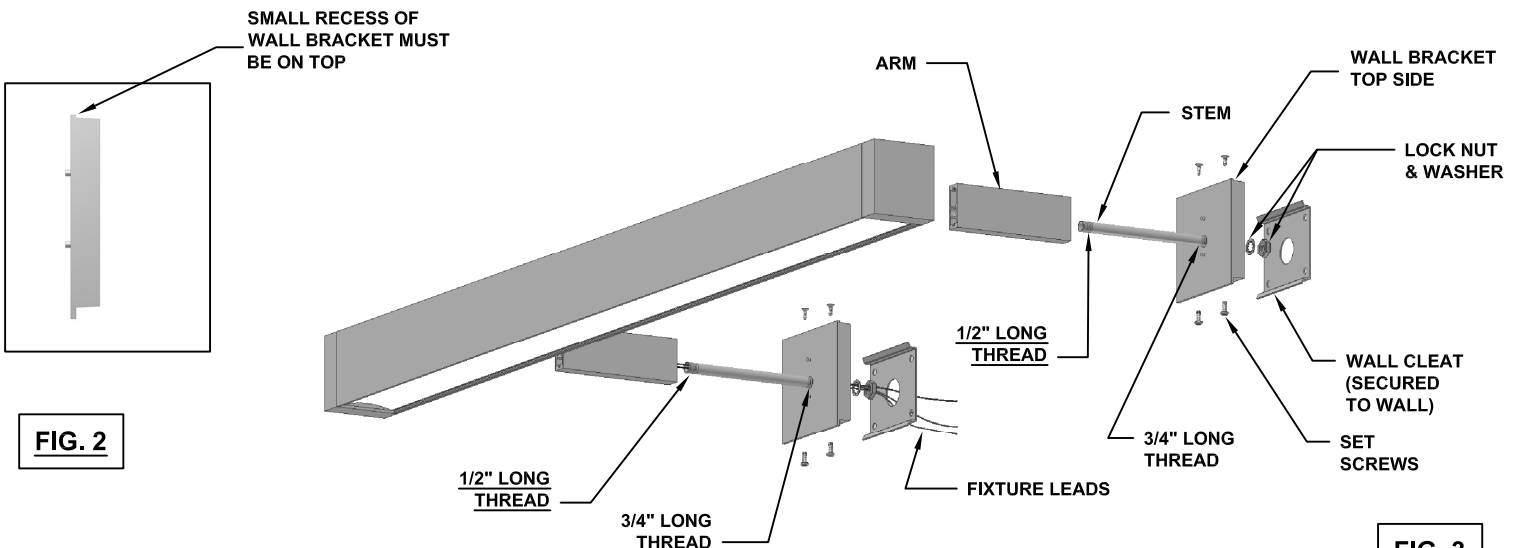

FIG. 3
HOOK FIXTURE ONTO WALL CLEAT- MAY REQUIRE (2) PERSONS- ONE AT EACH END. SWING FIXTURE DOWN TO MOUNTING SURFACE AND TIGHTEN SET SCREWS TO ENGAGE WALL CLEATS. VERIFY FIXTURE IS SECURELY ATTACHED. (FIG.3)